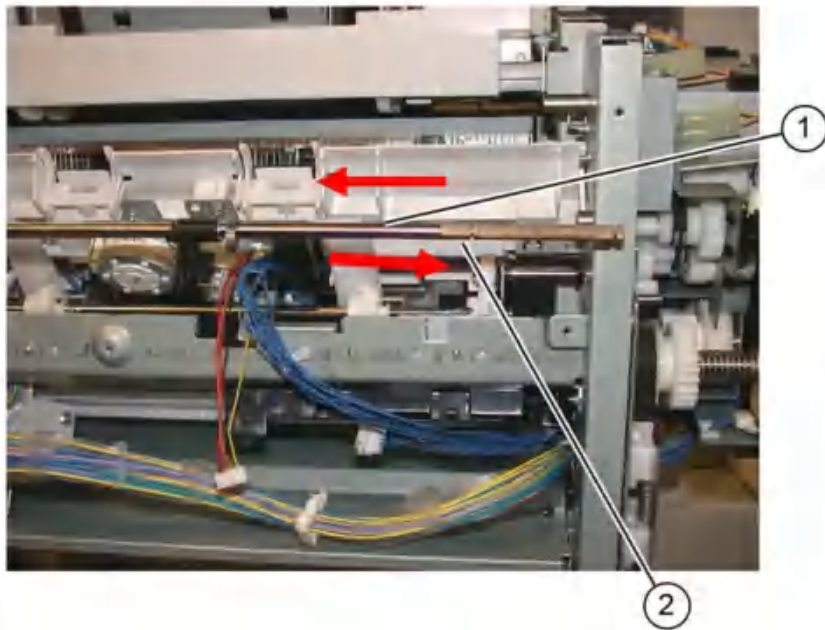

Figure 9 Set clamp shaft removal
16. Remove the set clamp shaft, **Figure 9**:
- a. Slide the shaft toward the front (1).
- b. Slide the shaft toward the rear, then remove (2).